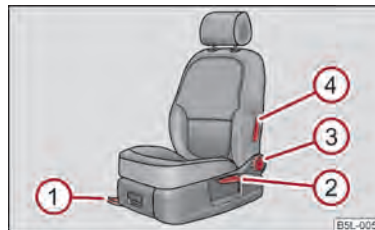

Fig. 42 Controls at seat
- Pull the lever ① ⇒ fig. 42 up and push the seat into the desired position.
- Release the lever ① and push the seat further until the lock is heard to engage.